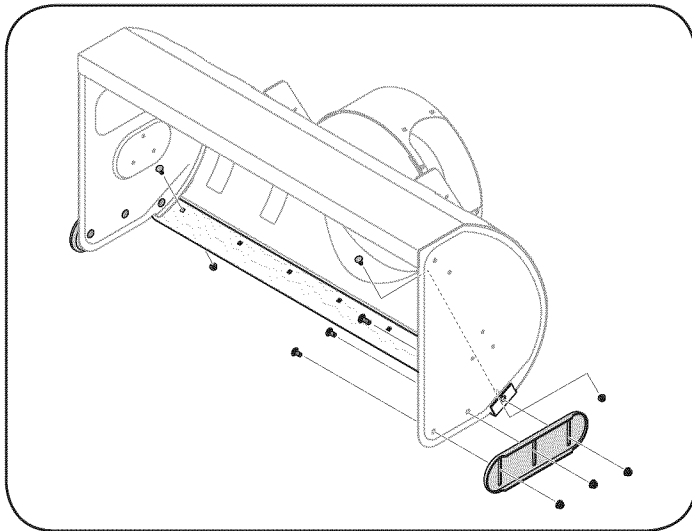

Figure 24
1. Remove the six carriage bolts and hex nuts that secure the two skid shoes to the sides of the auger housing. Refer to Figure 24.
1. Remove the hex nuts and carriage bolts that secure the shave plate to the bottom of the housing. Refer to Figure 24.